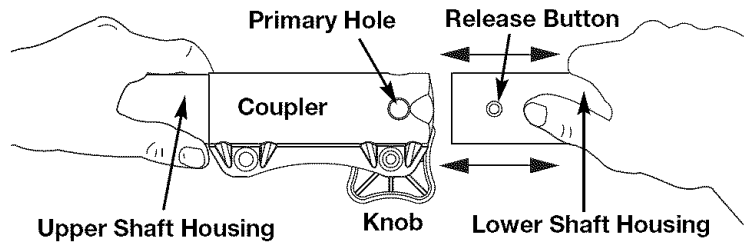

Fig. 2
3. While firmly holding the upper shaft housing, pull the attachment or extension boom out of the coupler (Fig. 2).
3. While firmly holding the attachment or extension boom, push it straight into the coupler (Fig. 2).
CAUTION: Lock the release button in the primary hole (Fig. 2) and securely tighten the knob before operating this unit.